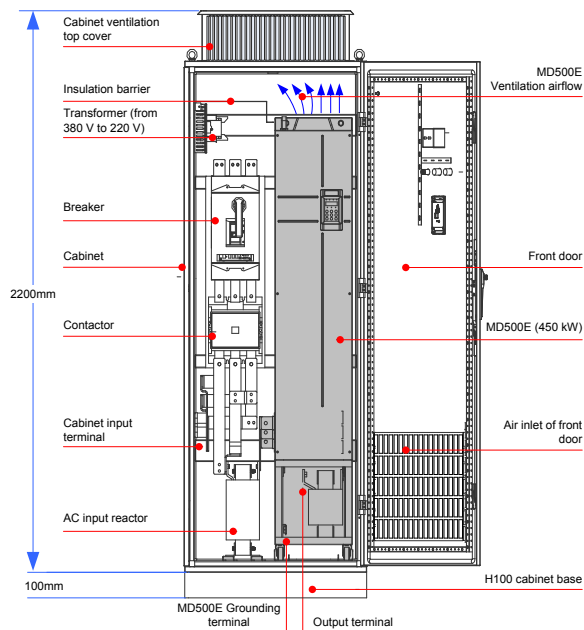

Figure 3-14 Recommended cabinet layout
- ◆ See Figure 3-14 for cabinet layout before mounting the drive in cabinet. The cabinet dimension is 2200 x 800 x 600 mm. The height 2200 mm includes the 200 mm cabinet ventilation top cover but does not include the 100 mm cabinet base. Insulation barrier must be installed at the top of the cabinet to avoid circulation of ventilation airflow within the cabinet. In addition, ensure there are air inlet openings at the bottom of the cabinet.